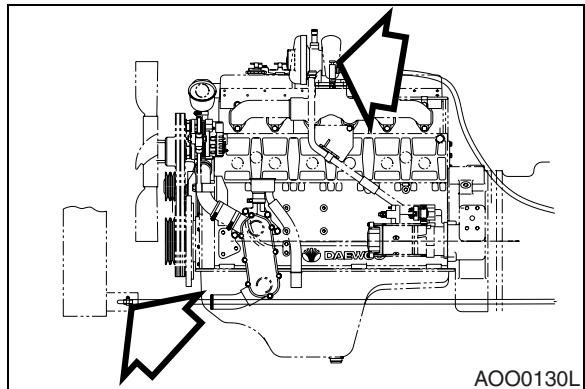
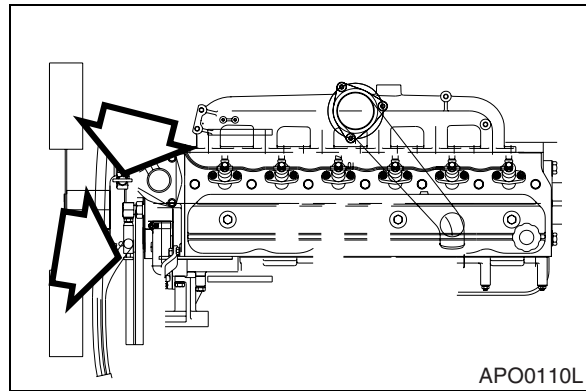

Figure 91 (S/N 3001 thru 4000)
Figure 92 (S/N 4001 and Up)
4. Open heater shutoff valves (Figure 91 and Figure 92) to allow coolant to drain from heater core.